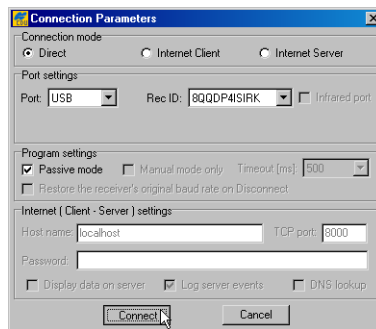

Figure 1-6. FUSB Connection Parameters
4. Click **Connect** (Figure 1-6).